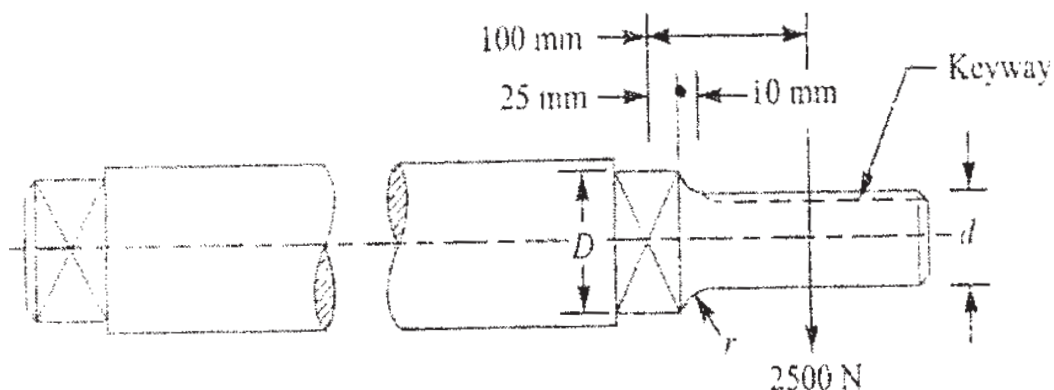

Figure 2
- b) A centrifugal blower rotates at 600 rpm. A belt drive is used to connect the blower to a 15 kW and 1750 rpm electric motor. The belt forces a torque of 250 N-m and a force of 2500 N on the shaft. Figure 2 shows the location of bearings, the steps in the shaft and the plane in which the resultant belt force and torque act. The ratio of the journal diameter to the overhung shaft diameter is 1.2 and the radius of the fillet is $1/10^{\text{th}}$ of overhung shaft diameter. Find the shaft diameter, journal diameter and radius of fillet to have a factor of safety 3. The blower shaft is to be machined from hot rolled steel having the following values of stresses: